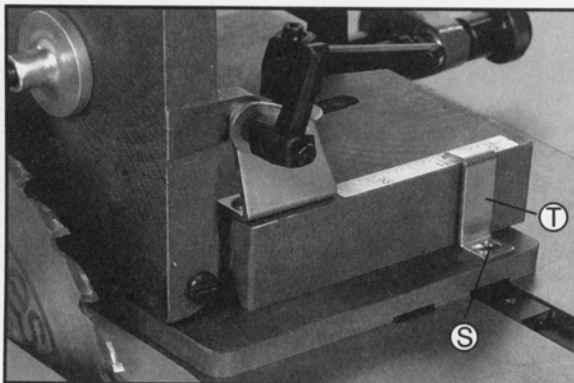

FIGURE 10
11. Loosen screw (S). figure 10. and adjust pointer (T) to the 0" mark on scale.